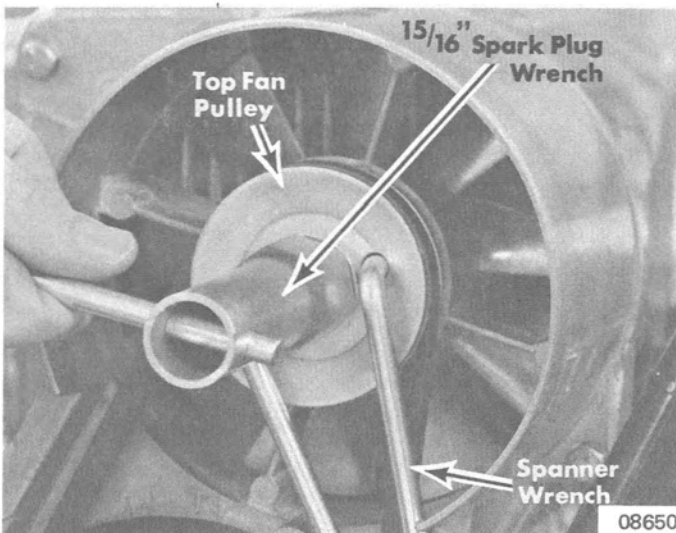

Figure 1. Fan Pulley Disassembly
1. Using spanner wrench (supplied with manufacturer's tool kit) and 15/16" wrench, remove top fan pulley retaining nut. (Figure 1)